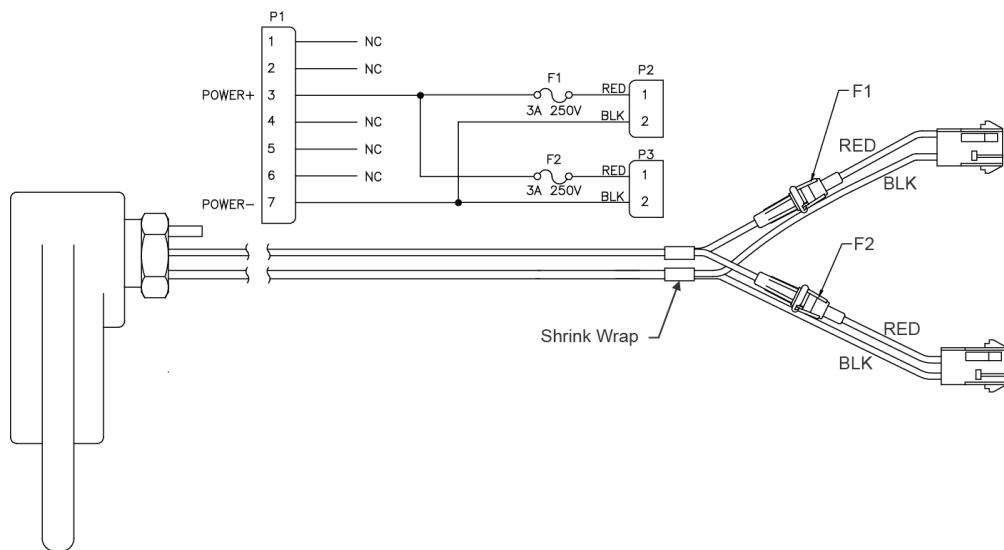

Figure 71. WorkHorse External Battery Case Wiring
17. For the WorkHorse External Battery Case, cut the wires on pins 1, 2, 4, 5, and 6 to 6mm long. Shrink wrap the bare ends of the wires. Place shrink wrap around the splices on pins 3 and 7 (see Figure 71. WorkHorse External Battery Case Wiring).